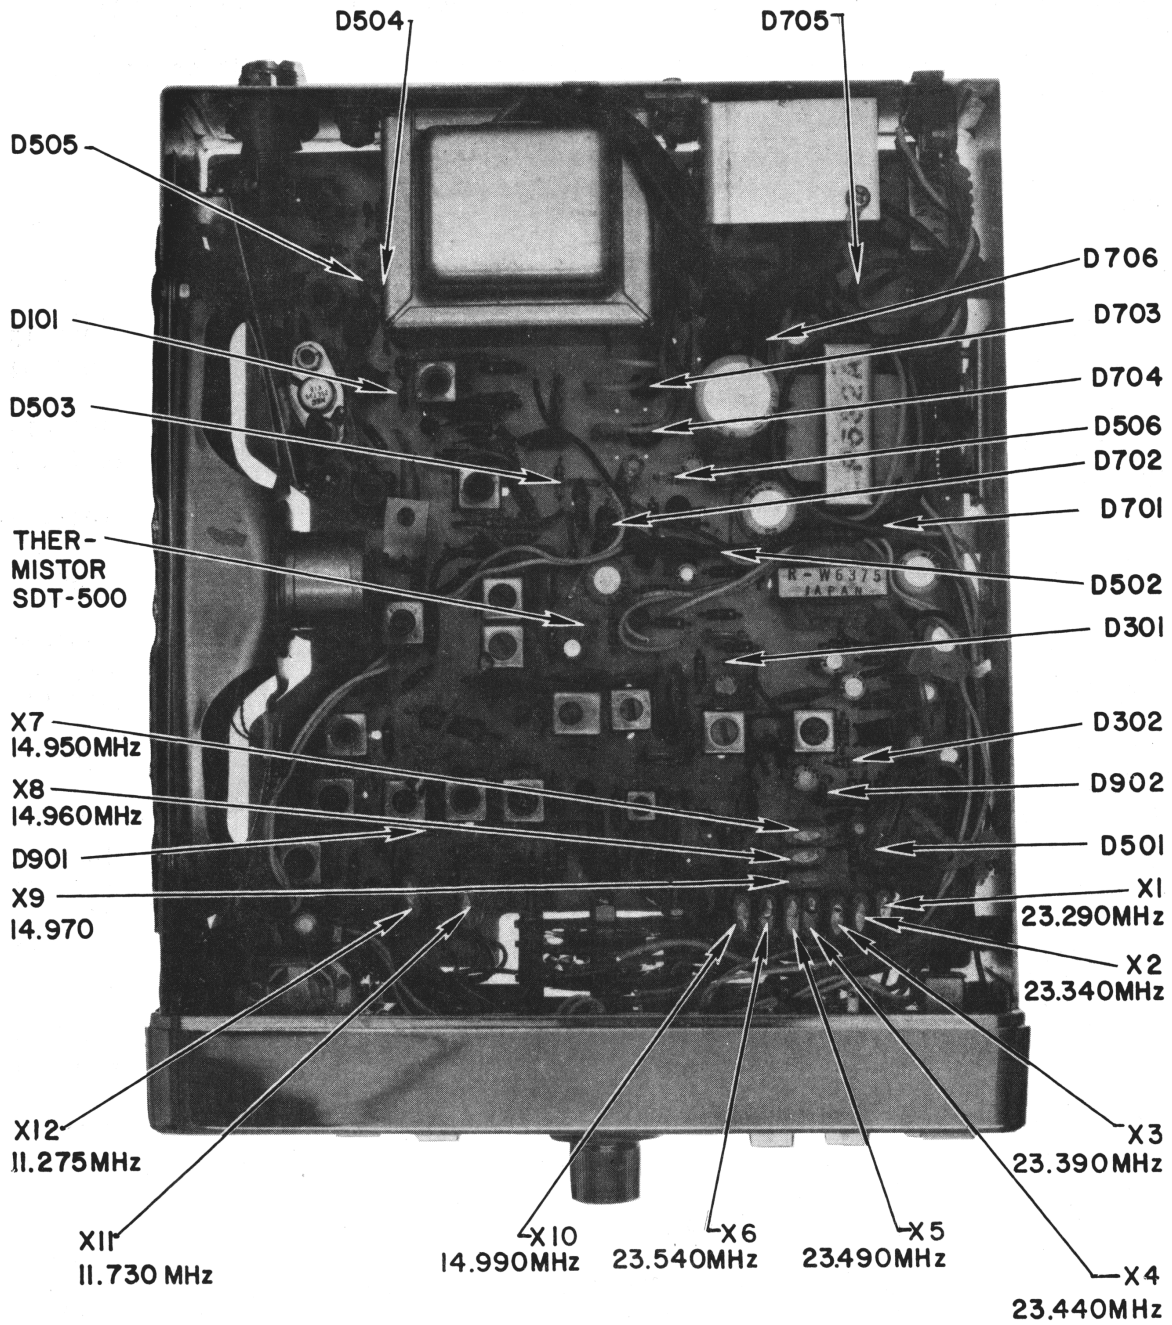

FIGURE 12, DIODES AND CRYSTALS, LOCATION DIAGRAM
- Figure 12, Diodes and Crystal location Diagram